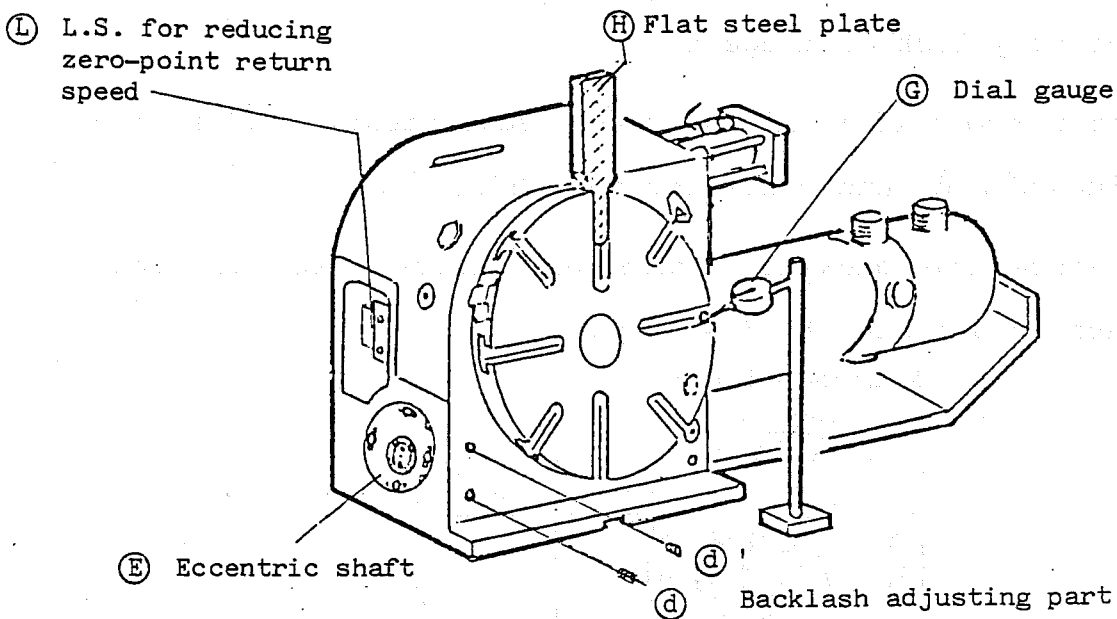

Fig. 8
Apply the dial gauge ③ on the T-slot again as shown in Fig. 8 and jog the button to examine behavior of the gauge pointer. Turn the adjusting screw counter-clockwise while operating both the CW & CCW jog buttons, and the backlash of the motor shaft will get near to zero.